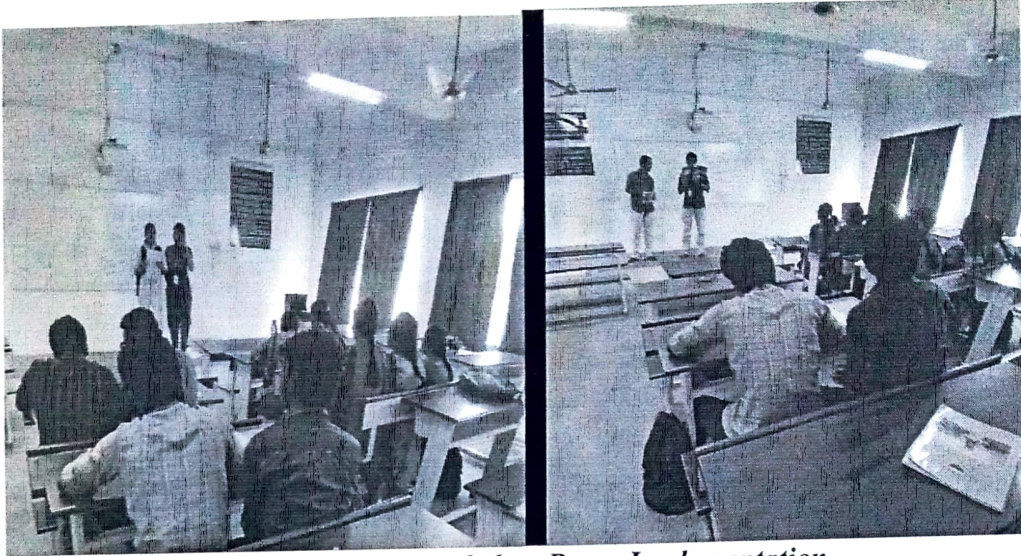

Figure 2: Flipped class Room Implementation
- Once they prepared the content for presentation with their peer members, each group present the given topic for maximum of 5 minute. The implementation of flipped class room activity as shown in figure1 and figure2.